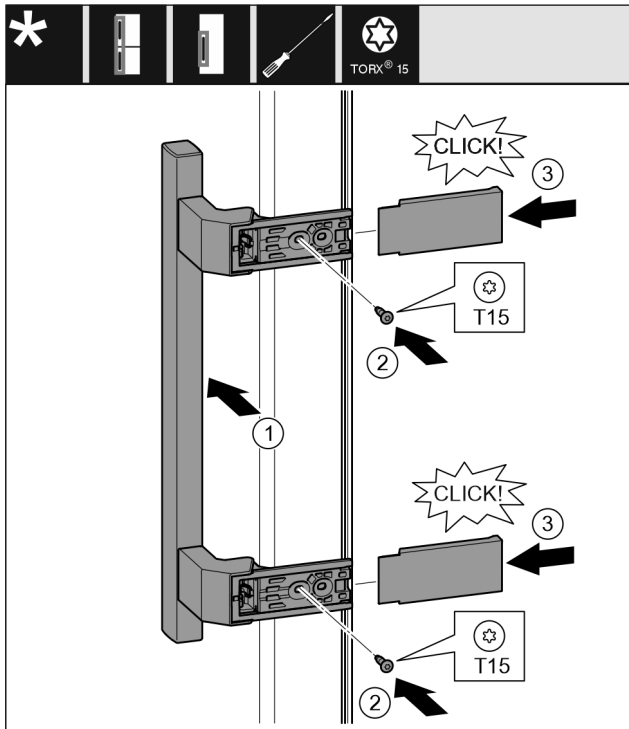

Fig. 19
- ▶ Attach the handle on the opposite side. Fig. 19 (1)
- ▶ Tighten screws with screwdriver T15. Fig. 19 (2)
- ▶ Place the covers on the side and push them on. Fig. 19 (3)